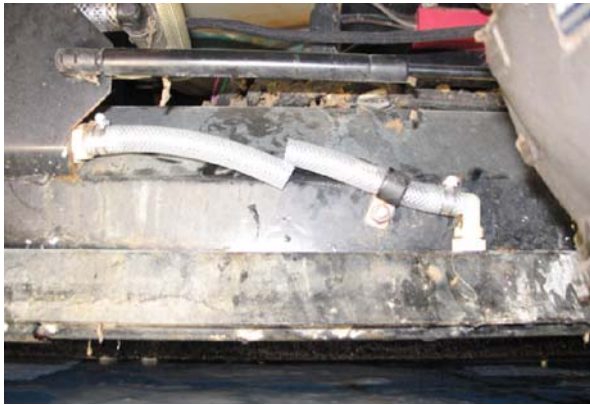

FIG. 6
7. Cut the existing scrub head solution supply hose located on the front of the scrub head. Refer to Fig. 6 where to cut the hose.